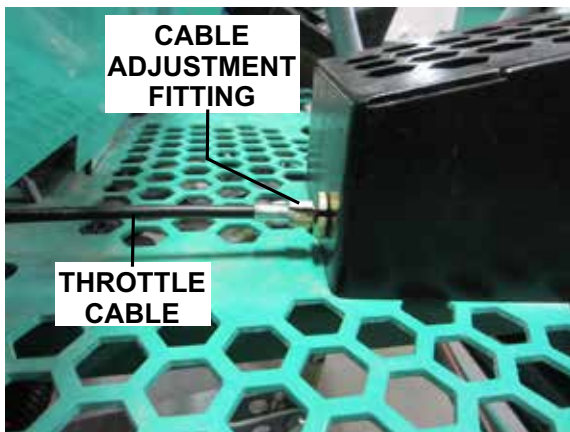
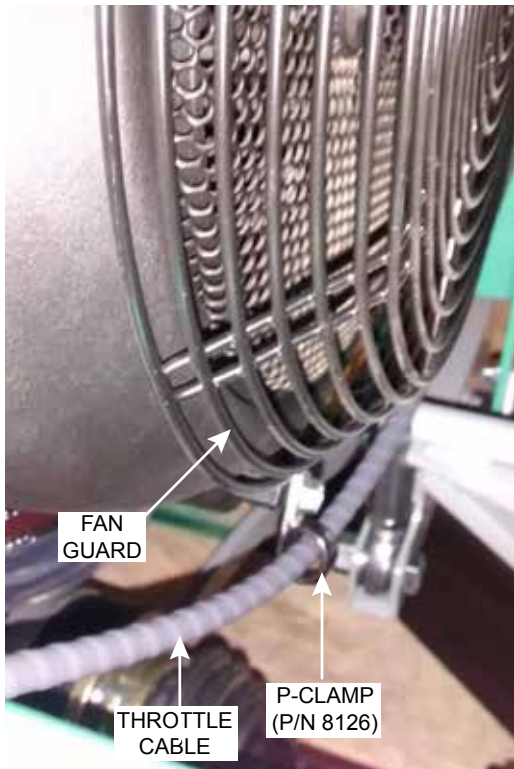

Figure 19. Throttle Cable Removal
Figure 23. Securing Throttle Cable
6. At the rear of the foot riser, loosen the cable adjustment fitting ring (Figure 19) and remove the existing throttle cable and adjuster from the trowel and discard.
9. Next, continue to route throttle cable and throttle wire through the cable adjustment fitting (Figure 19) located at the rear of the foot riser. A small jam nut, large jam nut, and washer will need to be removed.
16. To secure the throttle cable to the foot riser, tighten the cable adjustment fitting nuts securely. Reference Figure 19.
17. Place foot riser back in the upright position and secure to foot platform using the retaining screws (2).
18. Locate and remove the P-clamp (P/N 8126) from the kit. P-clamp the throttle cable and attach to fan guard as shown in Figure 23.